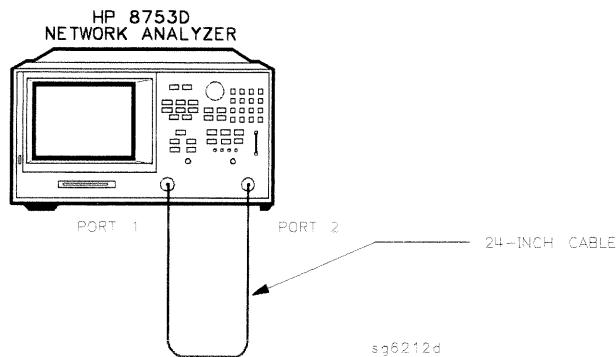

Figure 2-24. Test Port 2 Input Frequency Response Test Setup
16. Connect the equipment as shown in Figure 2-24.